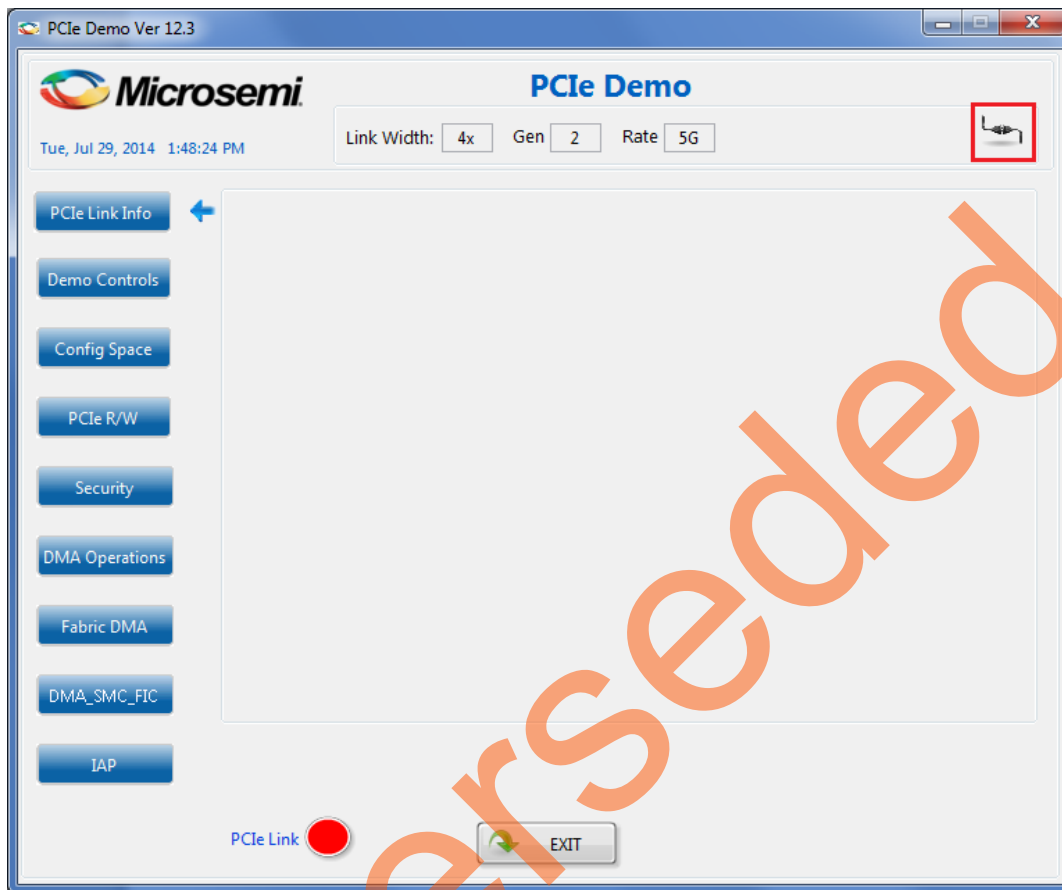

Figure 23 • PCIe Demo GUI
3. Invoke the GUI from **ALL Programs > PCIeDemo > PCIe Demo GUI**. Figure 23 shows the **PCIe Demo** GUI window.